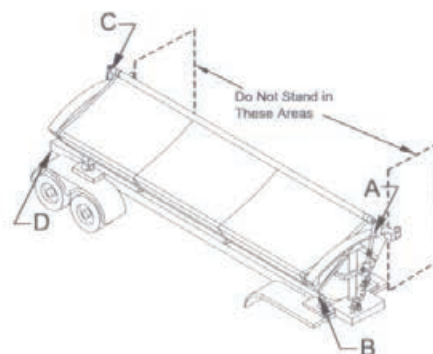

Figure 1
- 1) See **Figure 1**. Attach one end of the come-along to the front swing-arm (A), near the motor housing. Attach the other end of the come-along to the trailer on the side the tarp is anchored (B).
- 2) See **Figure 1**. Attach another come-along between the rear swing-arm (C) and trailer (D).